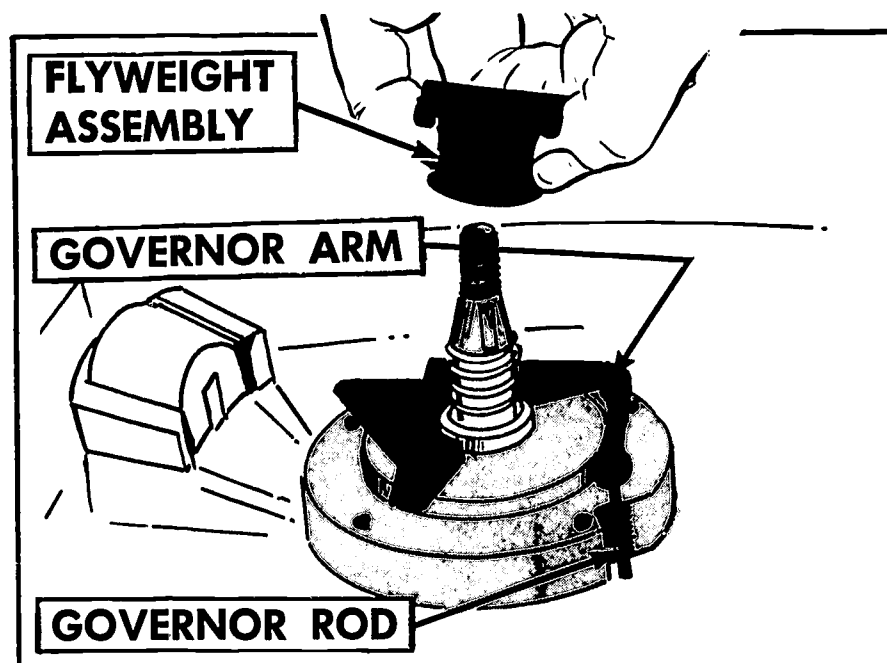

FIGURE 169. Removing governor flyweight assembly.
3. *Remove the flyweight assembly (Figure 169).*